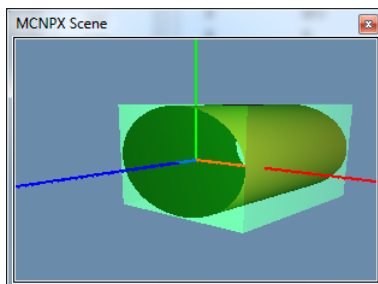

Figure 3.8: OpenGL rendered MCNPX scene of the imp=1.
This widget contains an OpenGL rendered view of the scene (see Figure 3.8) (6). The preparer will parse the cellcard that is defined as **imp:n=0**. The geometry of this cellcard is parsed and added to the OpenGL widget to let the user see where there is an importance of 1 for the particles. This will make it easier to place the camera around the scene and have a notion of the position of the scene.